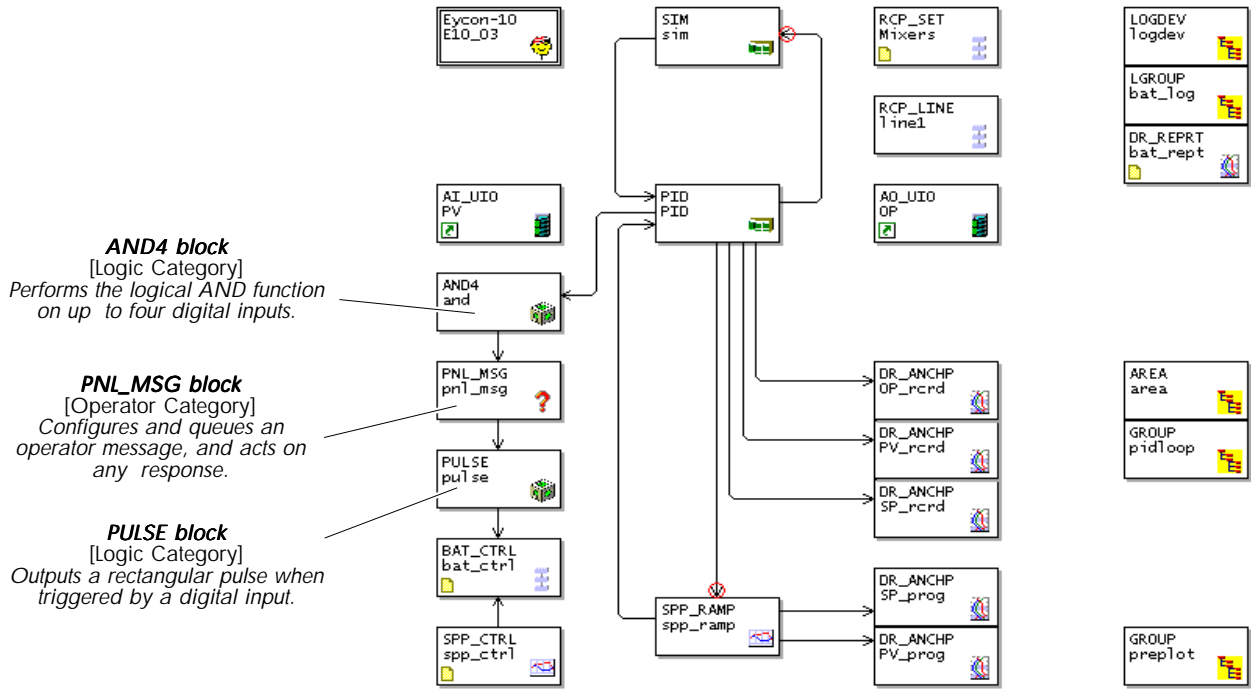

Figure 7-1 The batch strategy modified for messaging
Figure 7-1 shows the (simulation) batch strategy you created in Chapter 6, but with three extra blocks, AND4, PNL\_MSG, and PULSE, added to give the strategy some panel messaging capability. Panel messaging is the presentation to the operator of on-screen messages triggered by events in the application. These messages can be configured to offer the operator a choice of responses.
- 1 Open up the batch strategy you built in Chapter 6 ('batch.dbf') in the LINTools database configurator — by double-clicking its icon in Explorer view. Add the three extra blocks as shown in Figure 7-1.
<p>Note *(Block type) blockname.field.subfield format, referring to Figure 7-1. New wiring is listed below the dashed line.</p>
You must also edit the **Name** fields in all blocks, according to Figure 7-1 if you wish.
Note *(Block type) blockname.field.subfield format, referring to Figure 7-1